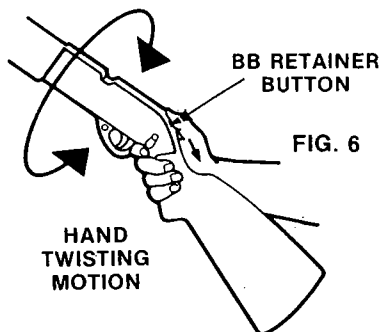

FIG. 6
- With hand twisting motion, shake and twist the rifle until all the BBs are out of the visual magazine. (Fig. 6)